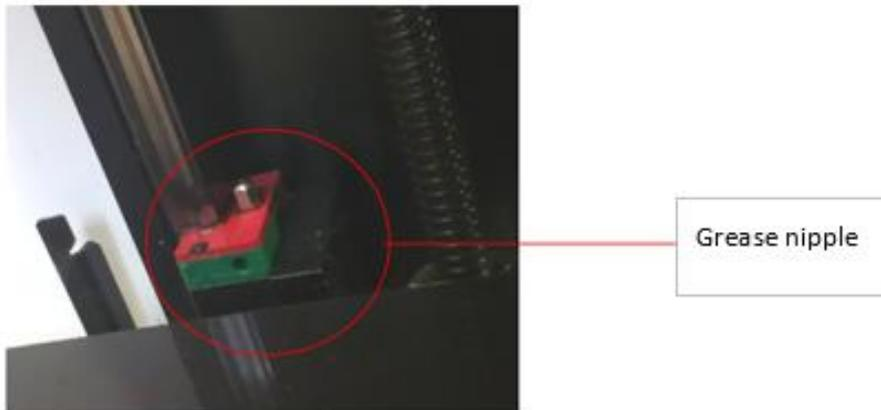

Fig.73 Linear carriage grease nipple
- Push grease into the grease nipple and around of the left linear carriage (Fig.73). It is located at the top of the liner carriage. Push grease out by pressing the lubricator nozzle firmly against the grease nipple and pressing smoothly the lubricator lever once.